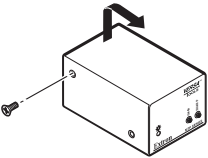

Figure 2-1 — Removing the MTP cover
1. Remove and retain the four screws (two on each side of the unit) that secure the cover to the MTP (figure 2-1).